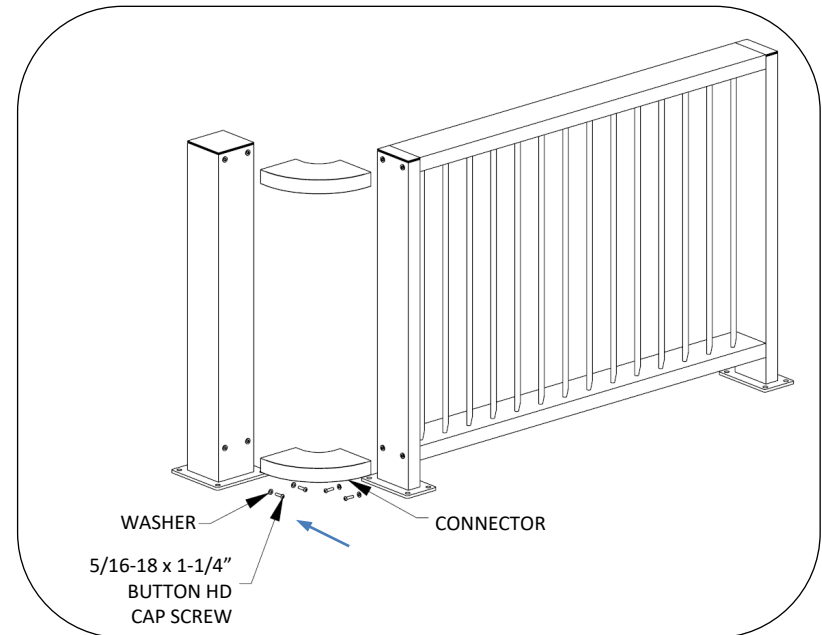

Fig. 4 – ATTACH CONNECTORS
- Attach connectors as specified, see Fig. 4.